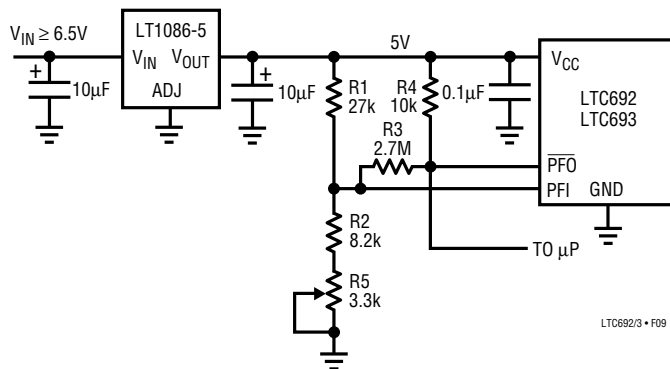

Figure 9. Monitoring Regulated DC Supply with the LTC692/LTC693 Power Fail Comparator
**Example 2:** The circuit in Figure 9 can be used to measure the regulated  $5\text{V}$  supply to provide early warning of power failure. Because of variations in the PFI threshold, this circuit requires adjustment to ensure the PFI comparator trips before the reset threshold is reached. Adjust  $R5$  such that the  $\overline{\text{PFO}}$  output goes low when the  $V_{\text{CC}}$  supply reaches the desired level (e.g.,  $4.6\text{V}$ ).